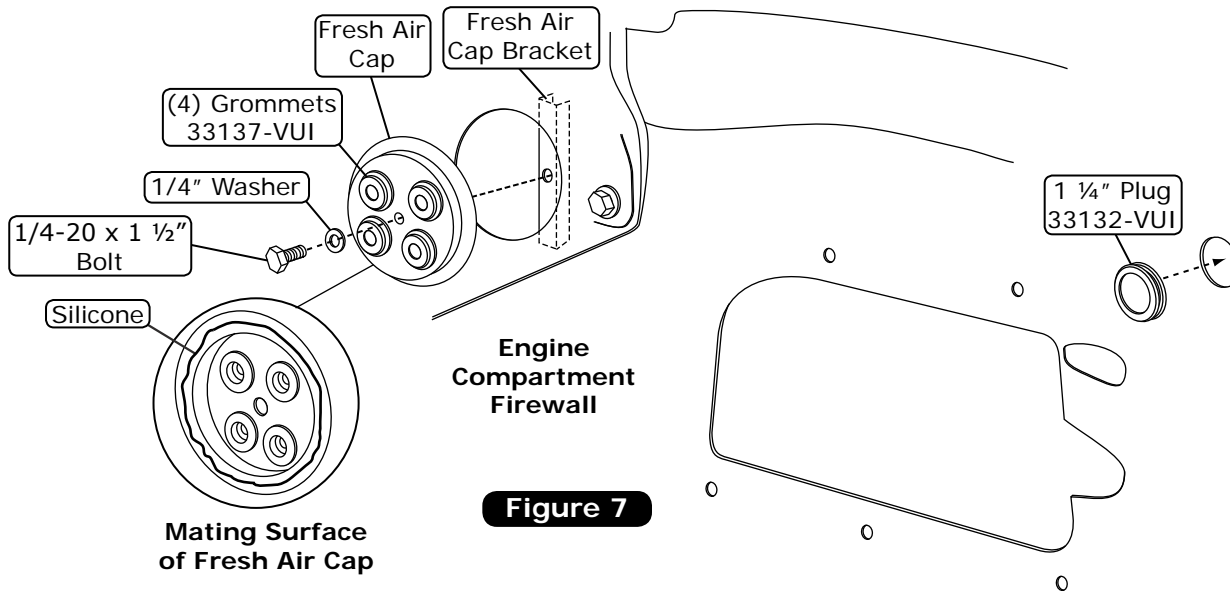

Figure 7
1. Install (4) grommets into the fresh air cap as shown in Figure 7, below.
2. Apply a 1/4" bead of silicone around the mating surface of the fresh air cap as shown in Figure 7, below.
3. Attach the fresh air cap to the firewall using the fresh air cap bracket, a 1/4-20 x 1 1/2" bolt, and a 1/4" washer as shown in Figure 7, below. **NOTE: The fresh air cap installs on the engine side of the firewall.**
4. Install a 1 1/4" plug into the firewall as shown in Figure 7, below.